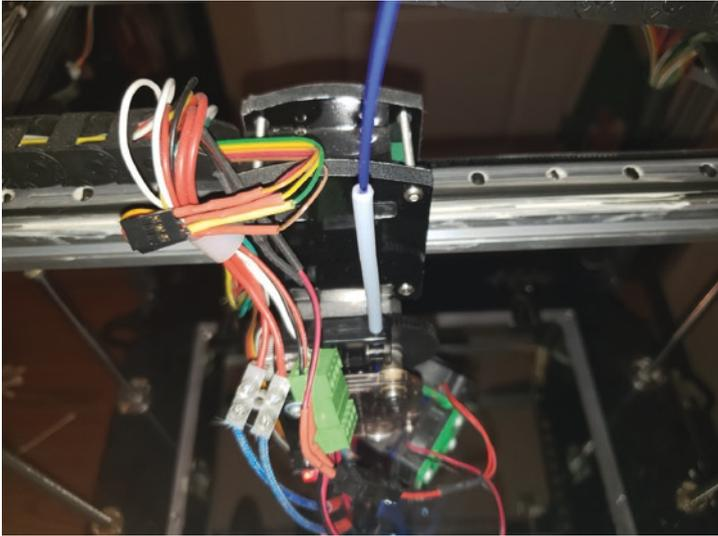

Figure 4-36. This is what you want to see
5. If the 100mm mark is above or below the entrance into the extruder, then you will need to adjust the steps/mm setting again. See Figures 4-36, 4-37, and 4-38.